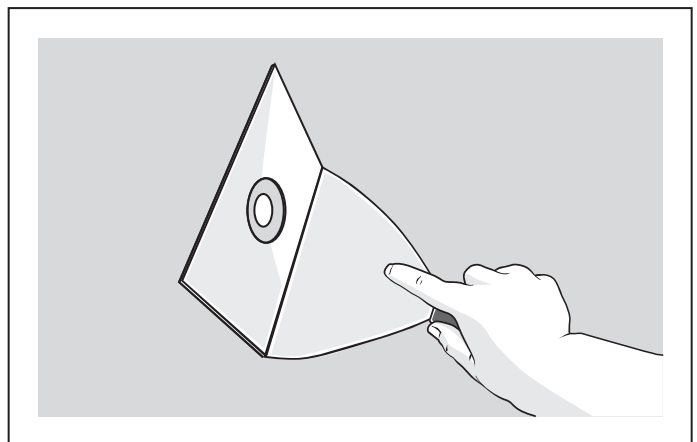

FIGURE 12 FIX BASE COAT APPLICATOR OVER EPOXY FILLED SCREW HEAD
7. Apply HardiStop base coat over epoxy using the base coat applicator. See Figures 12, 13, and 14.